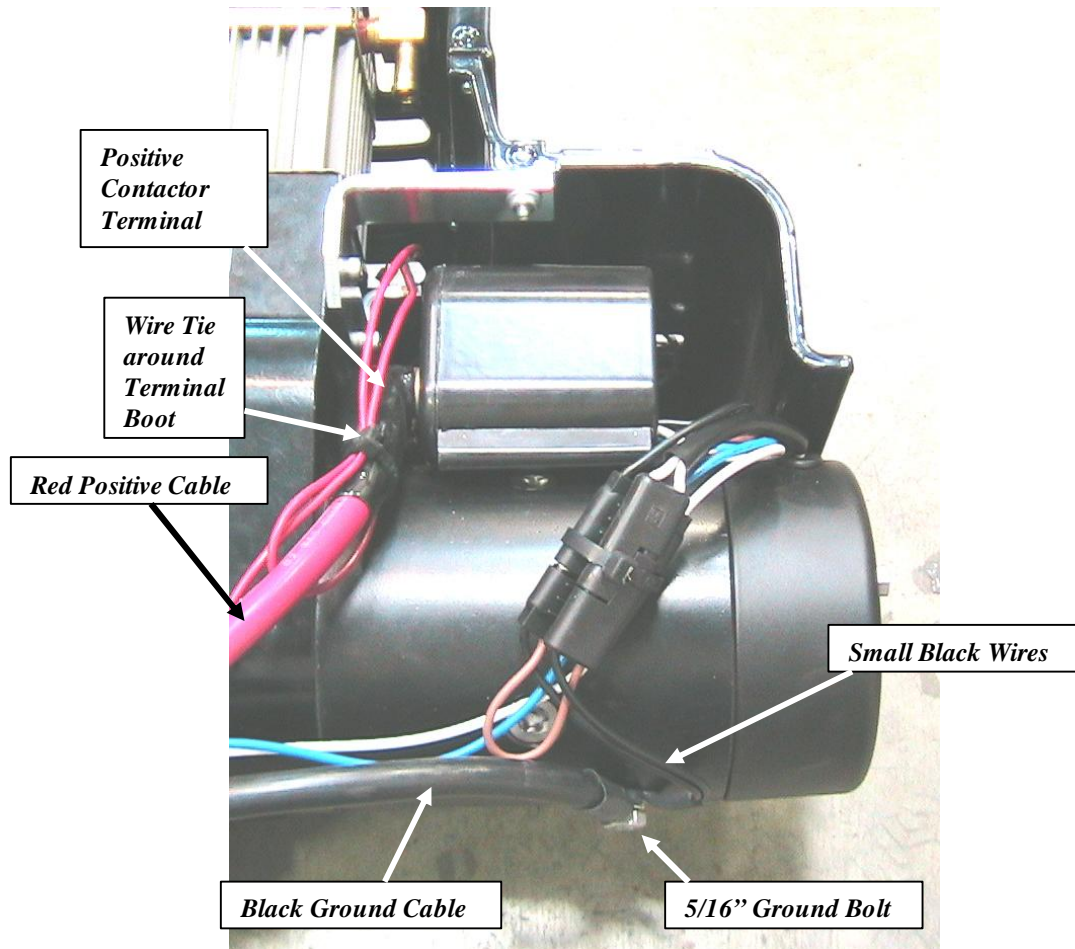

Figure 1
1. Before bolting the winch to Multi-Mount Frame, it is necessary to attach the Quick Connect Cable to the PowerPlant in place of the long red and black battery cables. **See Figure 1**